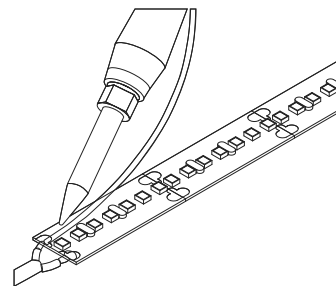

Figure 3b
- c. Depending on connection method, installer may plug, screw connect, peel and slide connectors or solder connections for jumping to next run. (Figure 3b)